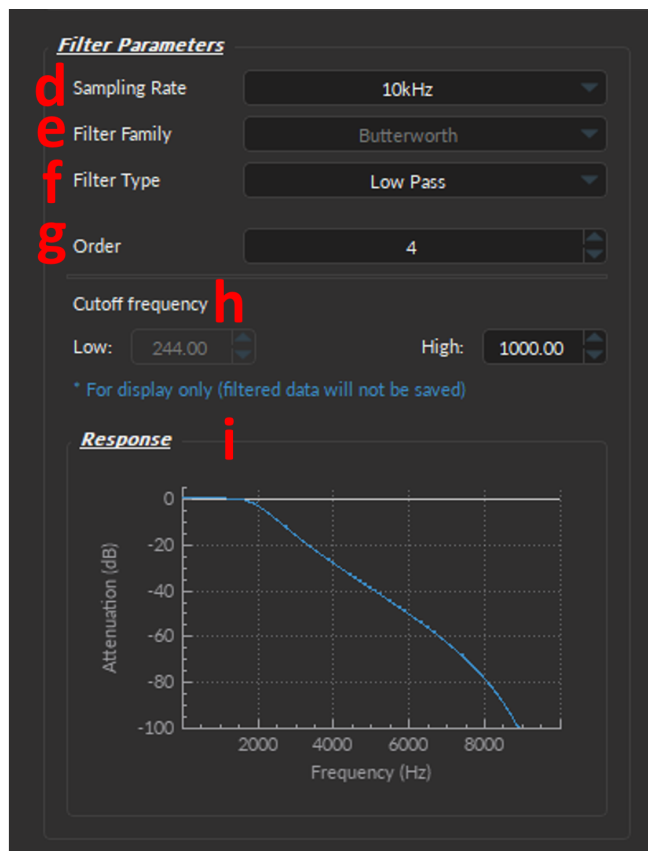

Figure 11.69: Filters, Filter Parameters
- d) The **Sampling Rate** (Fig. 11.69, d) specifies the number of data points per second that are saved in the .doric file. The **Sampling Rate** can range between 10 Hz - 50 kHz. Reducing the **sampling rate** here reduces the file size and is equivalent to decimating the data as it does not affect the true acquisition sampling rate. Only the filtered (and not the raw **Analog In**) channel is decimated.
- e) The **Filter Family** (Fig. 11.69, e) always corresponds to the *Butterworth* filters, which are ideal signal processing filters since they are designed to have a flat frequency response in the bandpass.
- f) The **Filter Type** drop-down (Fig. 11.69, f) offers four filter choices, including **High-Pass**, **Low-Pass**, **Band-Pass**, and **Band-Stop** filters.
- g) The **Order** (Fig. 11.69, g) specifies the number of cascaded stages within the *Butterworth* filter, such that the higher the order number, the closer the filter is to the ideal *brick wall* response.
- h) The **Cut-off Frequency** (Fig. 11.69, h) defines the low/high cutoff values for the filter, depending on the type used. The **Cutoff Frequency** must be less than half of the **Sampling Rate**. Note: the true cutoff value is, by definition, always 3 dB below (Low Cutoff) or above (High Cutoff) the specified value.
- i) The **Response Graph** (Fig. 11.69, i) displays the Frequency (Hz) vs Attenuation (dB) trace of the filter according to both the filter type and the cutoff values.